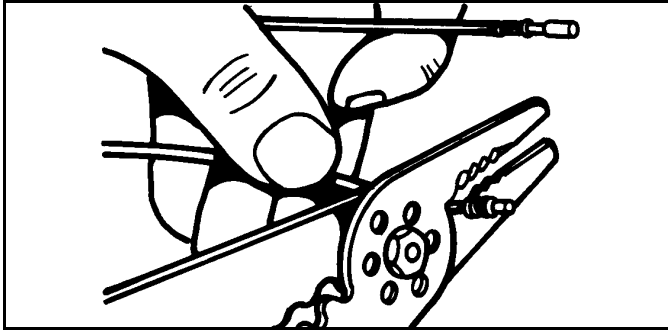

Figure 3-6
1. Cut wire as close as possible to old terminal and remove old cable seal. (See Figure 3-6).